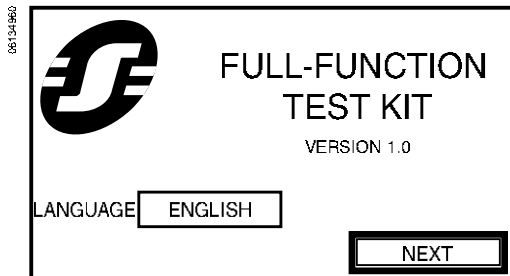

Figure 8: Full-function Test Kit Title Screen
2. Select appropriate language setting from Select Language screen. Display screen will return to Full-function Test Kit title screen (Fig. 8).